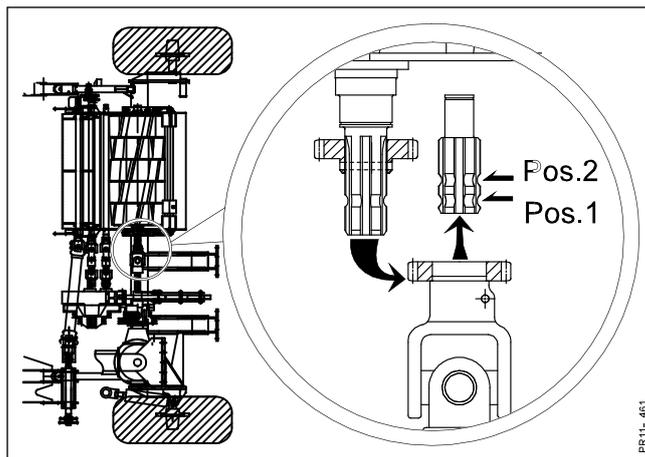

Fig. 4-28
- Fig. 4-28** 4. The PTO drive shaft must be fixed at pos. 2 whereby the gear wheels are engaged and the rotor will rotate in the opposite direction.